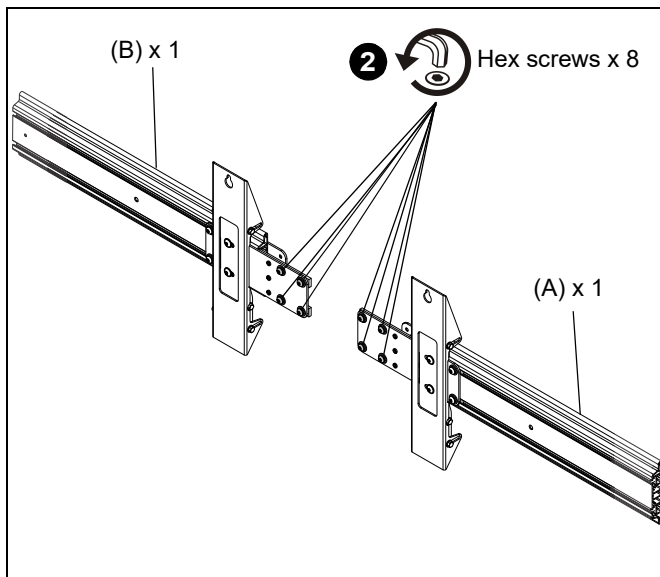

Figure 2
2. Loosen the eight screws shown on the back sides of the right (A) and left (B) extrusion assemblies (four screws per assembly). (See Figure 2)